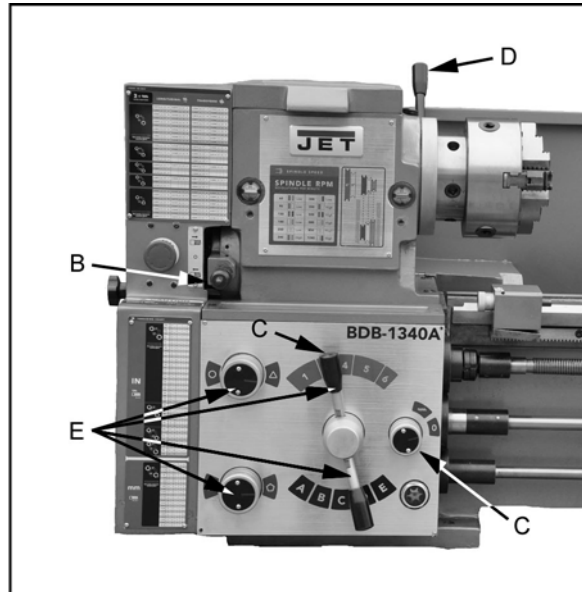

Figure 15
2. **Feed Direction Selector (B, Fig. 15)** – Arrows above the handle indicate saddle travel direction when the chuck is rotating in the forward direction or counter-clockwise as viewed from the front of the chuck.
3. **Feed Rod/Leadscrew Selector (C, Fig. 15)** – Use knob and lever to activate leadscrew and feed rod.
4. **Belt Tensioning Handle (D, Fig. 15)** – Pull forward to release tension on the drive belt. Push toward the rear to tension the belt.
5. **Feed Rate Selector (E, Fig. 15)** – Two knobs and two handles used to set desired feed, or lead rates.